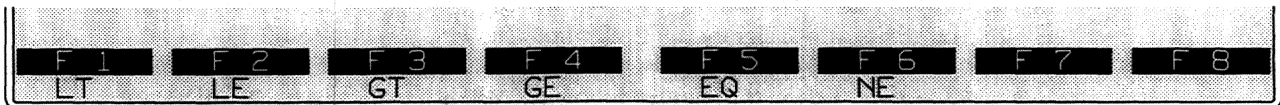

Figure 31-2 A set of relational operators compares the counter value to a user-entered value.
2. *Relational operator.* As soon as a counter name has been typed and followed by a space, a rack of softkeys appears with names of relational operators. See Figure 31-2.